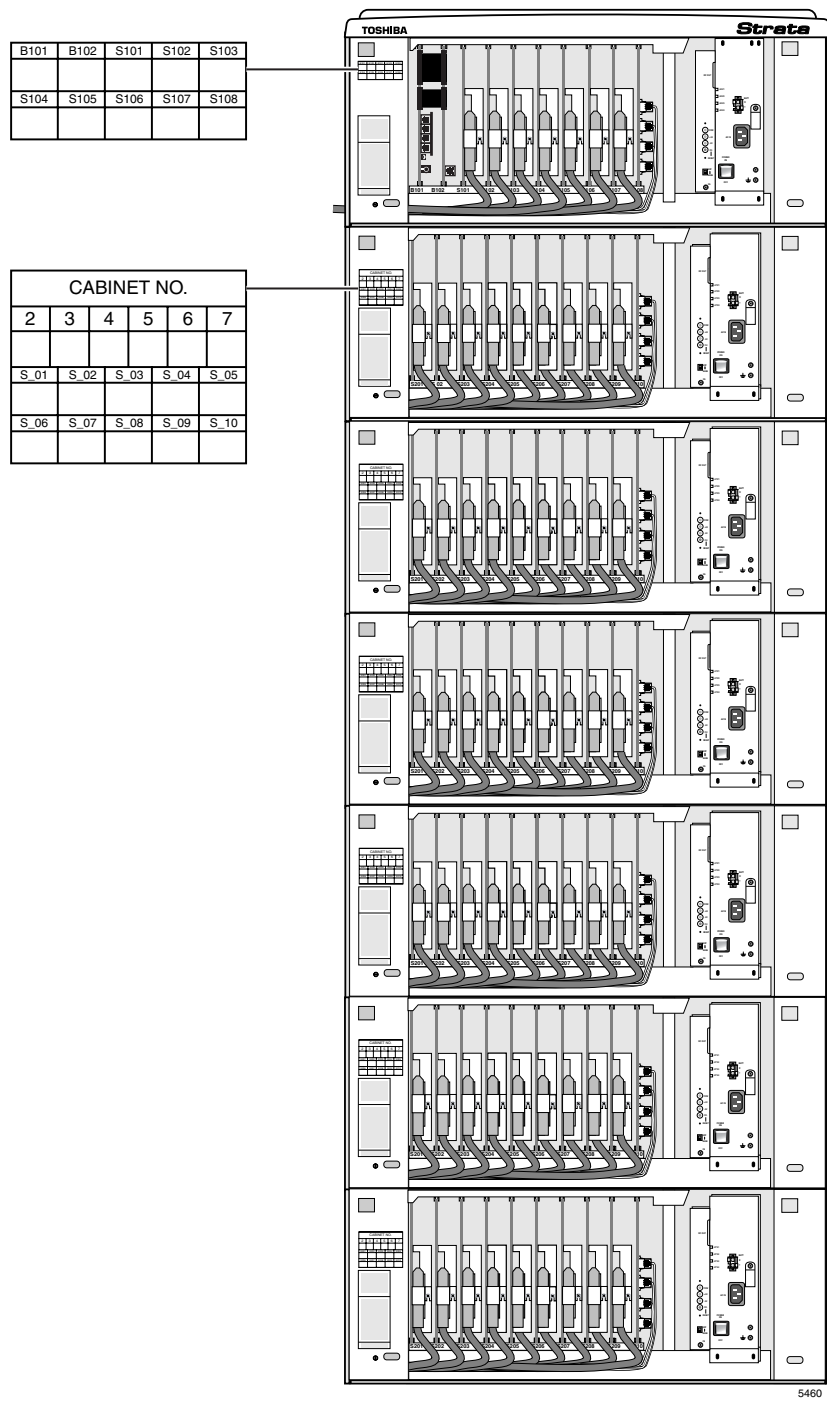

Figure 3-8 CTX670 Cabinet Interior
13. Fill out the slot identification label on the cabinet (see Figure 3-8).